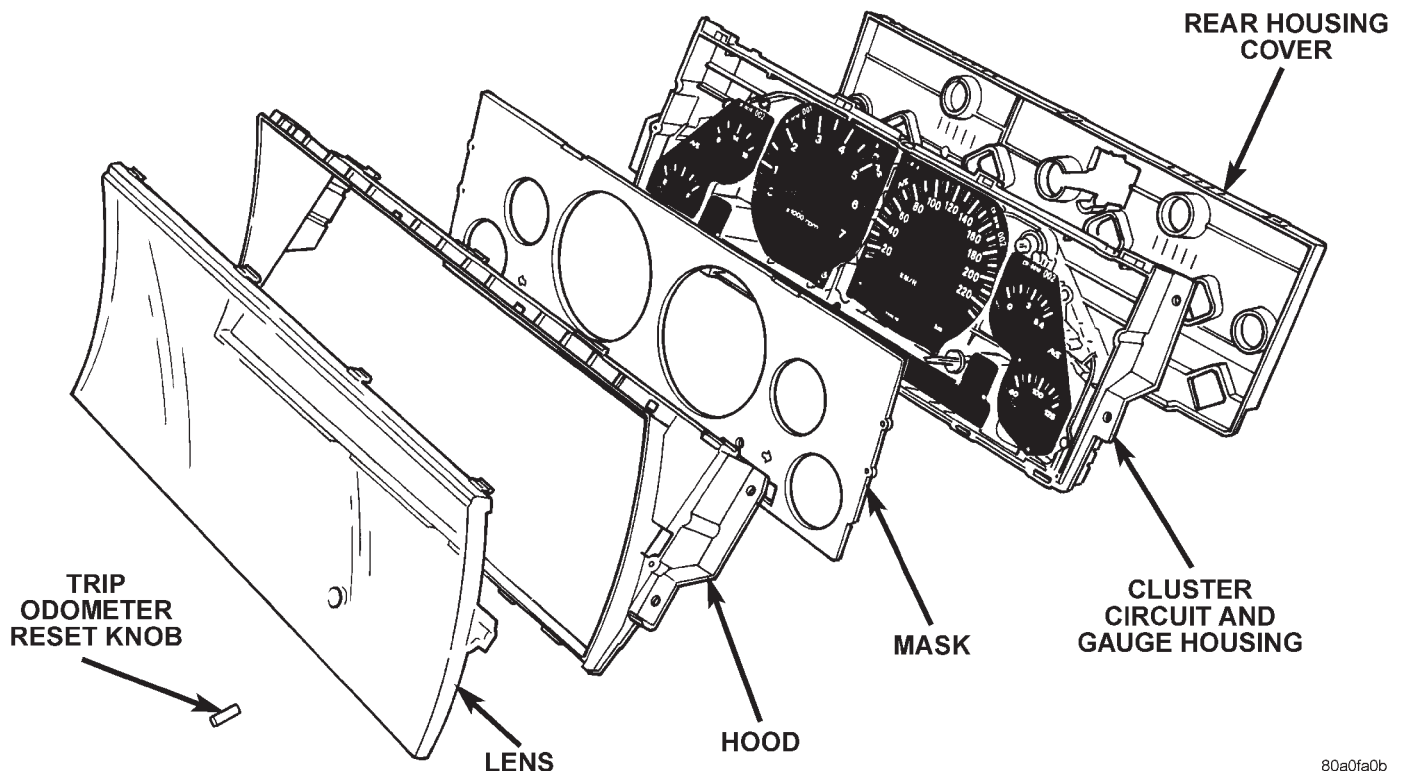

Fig. 6 Instrument Cluster Components
- (1) Remove the cluster bezel as described in this group.
- (2) Remove the instrument cluster as described in this group.
- (3) Remove the trip odometer reset knob by pulling it off of the switch stem (Fig. 6).
- (4) Depress the snap clips that secure the cluster lens to the cluster hood and gently pull the lens away from the hood.
- (5) Depress the snap clips that secure the cluster hood to the cluster circuit and gauge housing and gently pull the hood away from the housing.
- (6) Gently lift the gauge mask away from the locating pins on the front of the cluster circuit and gauge housing.
- (7) Reverse the removal procedures to install.